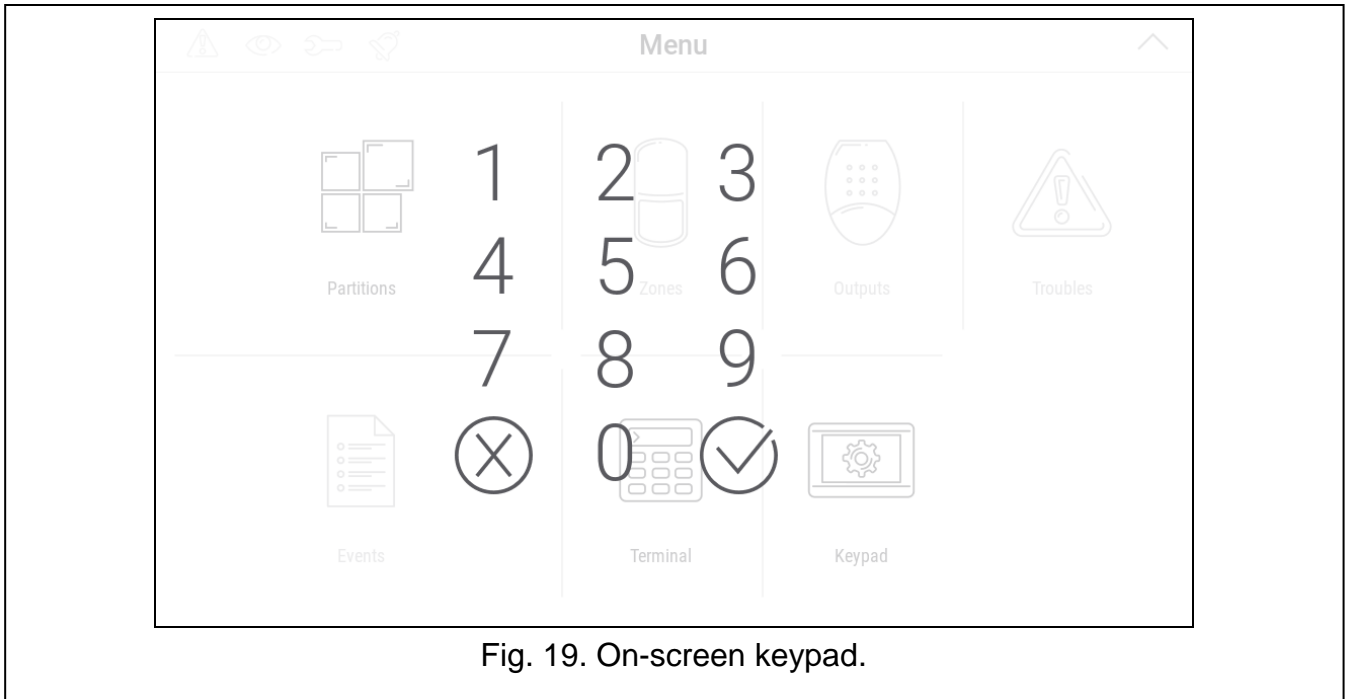

Fig. 19. On-screen keypad.
2. Swipe the screen up. The on-screen keypad will be displayed (Fig. 19).